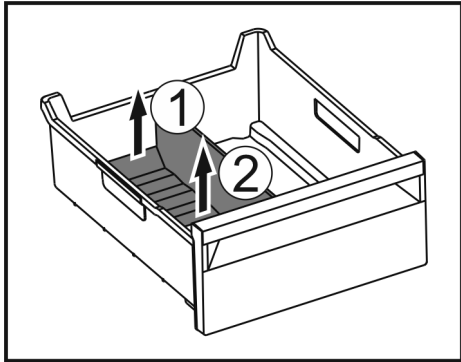

Fig. 74
- ▶ Lift the rear part of the ice compartment divider. *Fig. 74 (1)*
- ▶ Remove the ice compartment divider upwards. *Fig. 74 (2)*